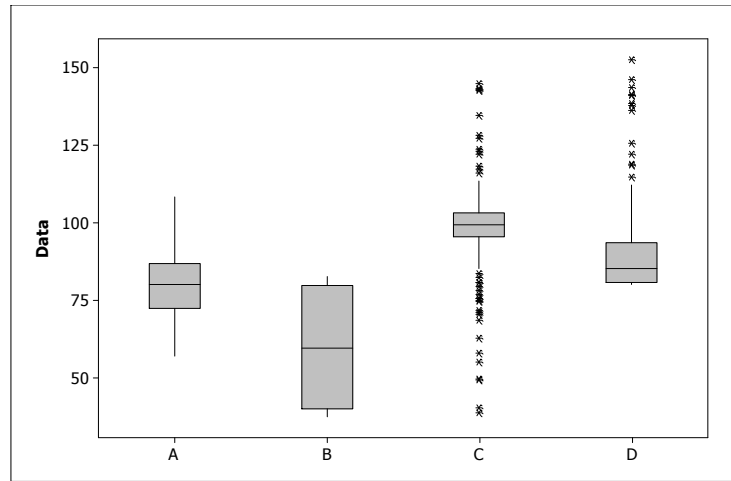

FIGURE 3.1. Boxplots of samples from four populations.
3. Each boxplot in Figure 3.1 was constructed from a random sample of size  $n = 200$ .